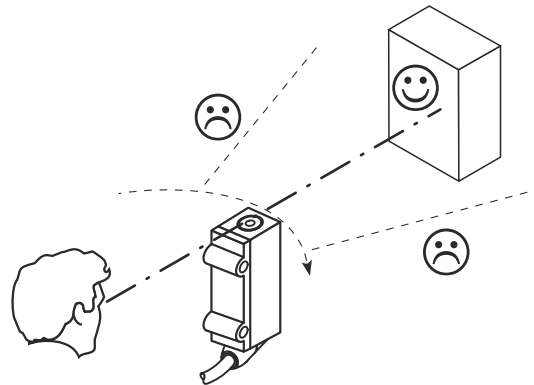

Figure 3: Sensor alignment
- ① White object, 90% remission factor
- ② Object with 6% ... 90% remission factor (complies with standard white according to DIN 5033)
3. Select the position so that the infrared light (not visible) hits the center of the object. The correct alignment can only be detected via the LED indicators (yellow indicator LED lights up when the object is detected) or with the help of an infrared conversion screen (see the SICK range of accessories). see figure 3, page 27